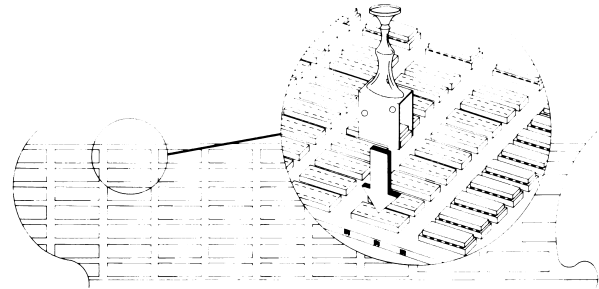

Figure 7-40. Inserting a Memory Chip.
6. Using an IC insertion tool, insert the replacement memory chip (Figure 7-40).